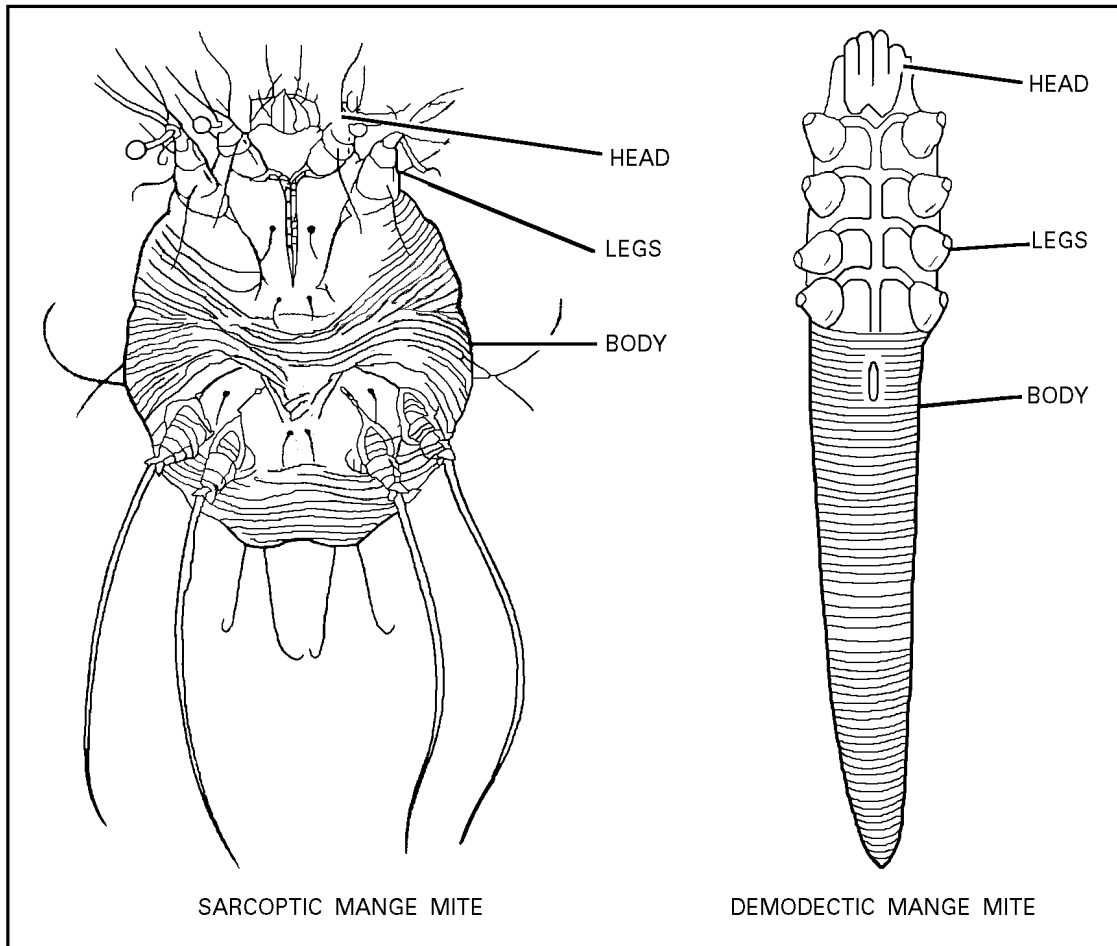

Figure 3-1
- (1) Hold the blade perpendicular to the skin to avoid accidental incision.
- (2) Briefly squeeze or pinch the skin with some force to empty skin follicles to the surface.
6. Scan the slide with a microscope using the low power objective (4X) to locate possible ectoparasites. (See Figure 3-1.)